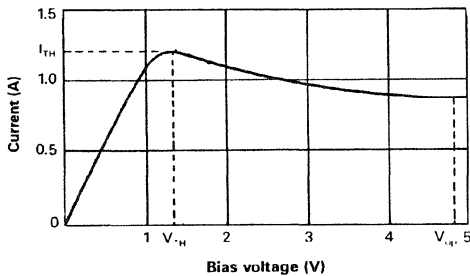

Fig. 1a Typical DC Characteristic, Standard Gunn Diode
2. The power supply must be capable of supplying the saturation current, as indicated in Figures 1a. and 1b. A value of 1.5 times the operating current as maximum power supply rating should give an adequate margin.